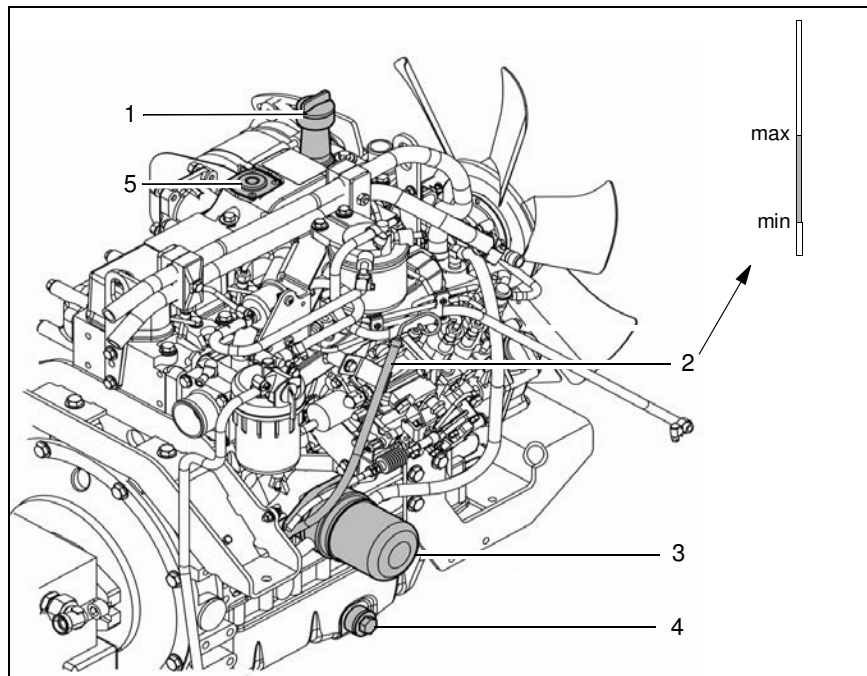

Fig.44
3. Check the engine oil level with the oil dipstick (Fig. 44/2) .
2. Place a suitable container below the drainage plug (Fig. 44/4).
3. Remove the oil filler cap (Fig. 44/1) for venting the system.
5. Changing the engine oil filter (Fig. 44/3). Ensure that the sealing surfaces are kept clean and insert a new sealing ring.